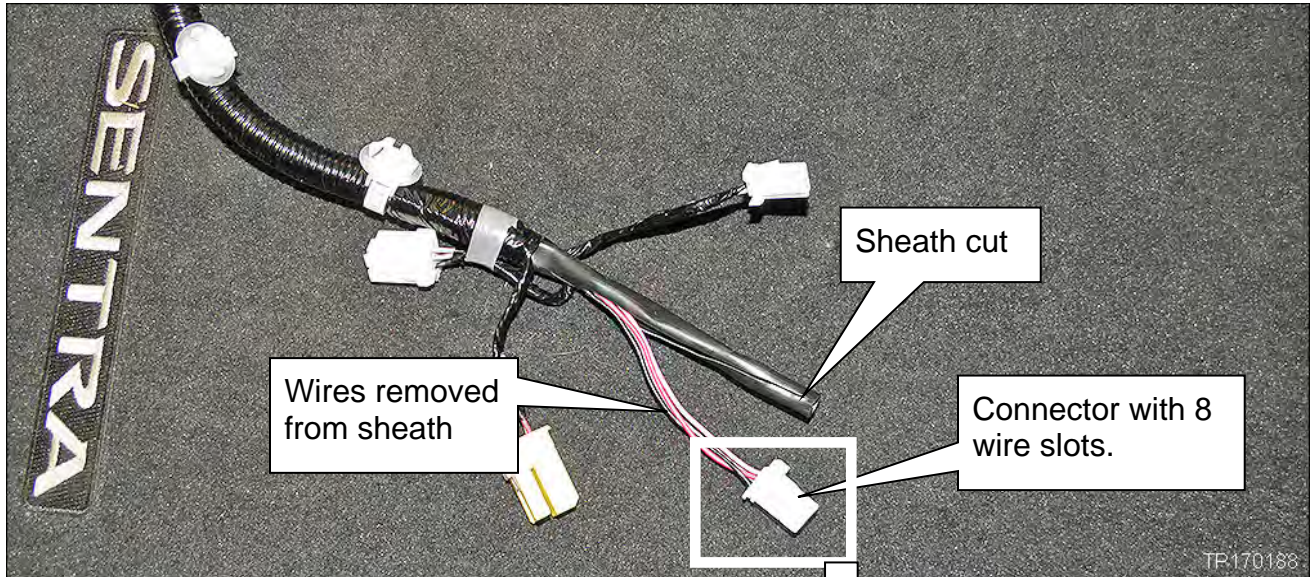

Figure 2
7. Carefully cut the sheath (harness cover) and remove wires as shown in Figure 2.
8. Select the connector shown in Figure 2:
- Red (R)
- Pink (P)
- Black (B)
- Gray (GY)